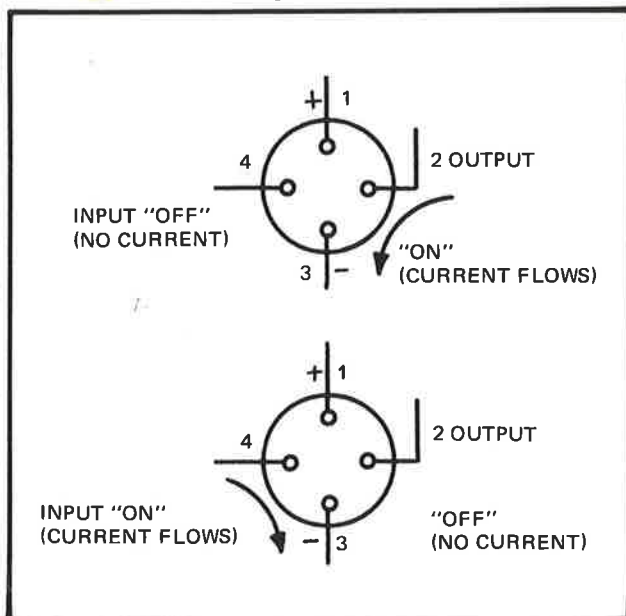

FIG. 1-5 SHUTTER IC OPERATION
In the holding leg of the circuit, current flows from the positive side of the 3-volt battery, through the interlock, to pin 1 of the integrated circuit (IC). (Refer to Figure 1-5). This causes the output of the IC (pin 2) to turn on. With the output on, current flows through the magnet coil and pins 2 and 3 to the negative side of the bat-